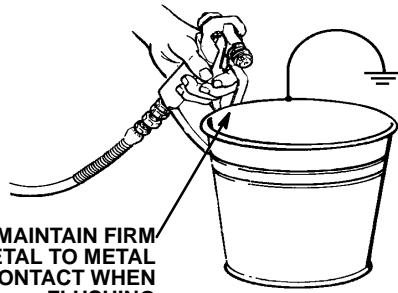

Fig 11-1
6. To prime the pump, hold a metal part of the gun firmly against a grounded metal waste container. See Fig 11-1. Hold the trigger open, turn ON the sprayer, and slowly increase the pressure setting until the sprayer starts. Keep the gun triggered until all air is forced out of the system and the paint flows freely from the gun. Release the trigger and engage the gun safety latch.